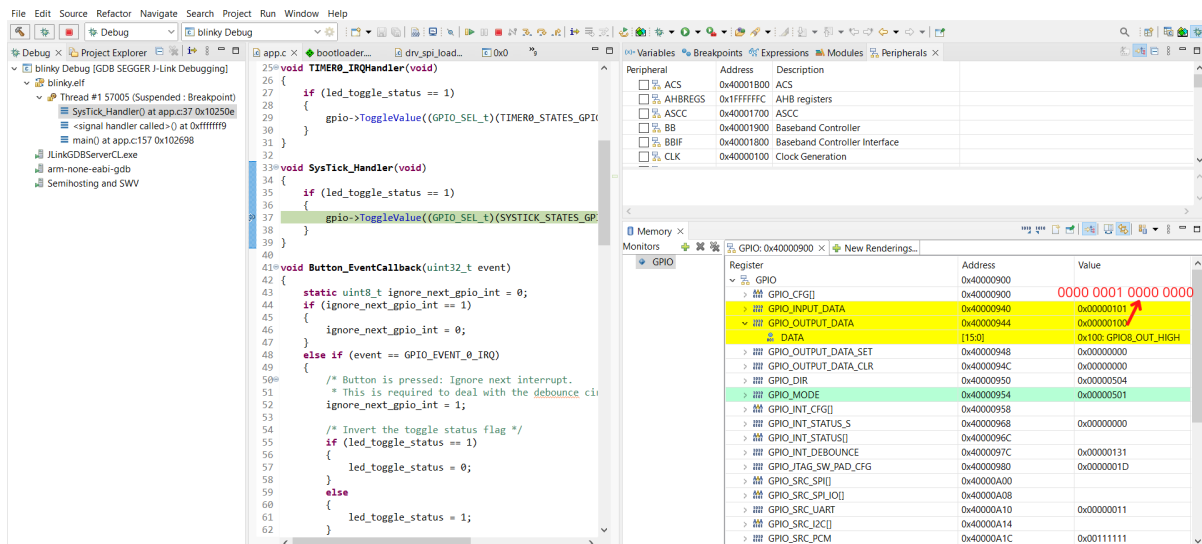

Figure 17. Toggling RSL15 GPIO Using the Peripheral Registers View: After
- To manually change the register value, click on the Value field of the GPIO register to change the (HIGH/LOW) state of GPIO8 and GPIO10. The "Toggling RSL15 GPIO Using the Peripheral Registers View: After" figure (Figure 17) illustrates the view after making the change. You can observe that the LED (GPIO8 and GPIO10) on your board changes state.